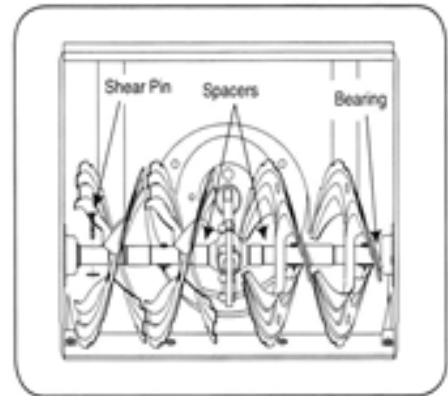

Fig. 19
- The auger are secured to the spiral shaft with two shear pins and cotter pins. If the auger should strike a foreign object or ice jam, the snow thrower is designed so that the pins may shear. See Figure 19.